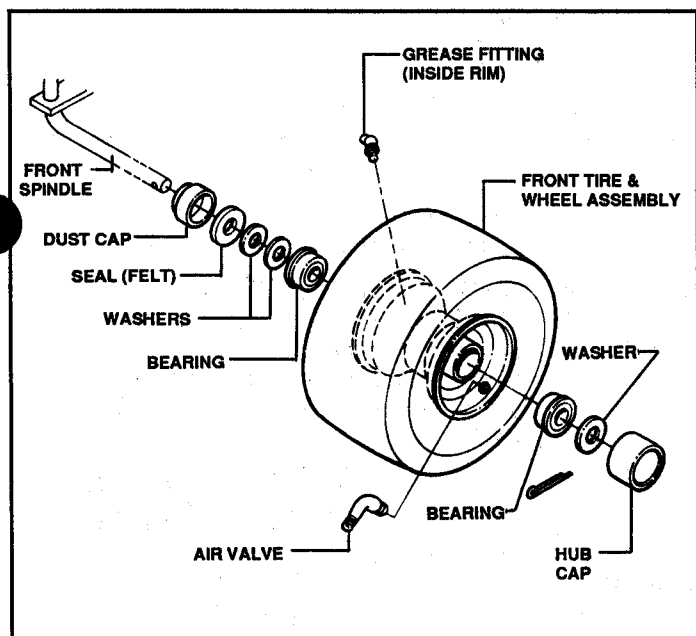

FIGURE 5.2
- B. Remove cotter pin and flat washer. Slide wheels off front spindle. Inspect wheel and tire assembly. Replace as required. See Figure 5.2.
- E. Reinstall wheel and bearing assembly as shown in Figure 5.2.